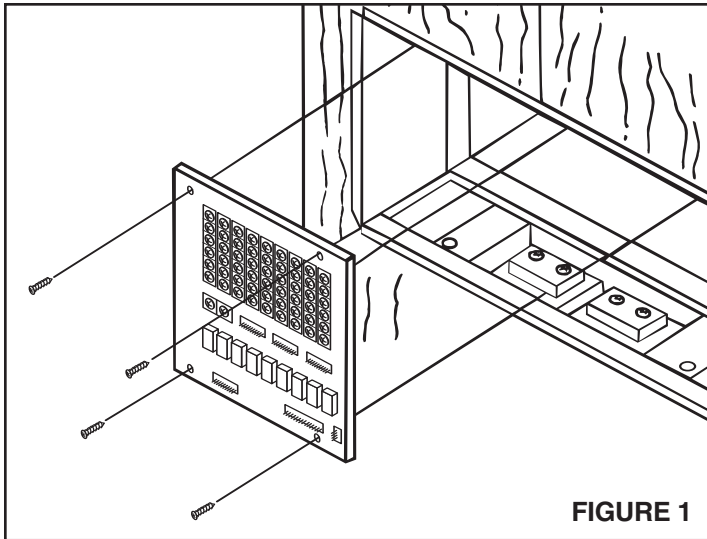

FIGURE 1
2. **Refer to Figure 1.** Locate the terminal board in the left rear section of the rough-in frame.
3. Use four (4) N° 6 x 3/8" screws supplied to secure the terminal board to the rough-in frame.